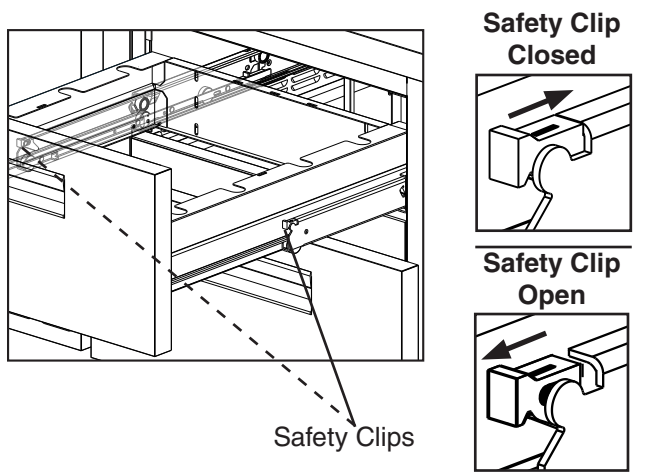

Fig. 36
- **To remove a drawer:** Remove all items from the drawer. Pull the drawer out to its fully extended position. Open the safety clips (one on each side) by sliding them forward. See Fig. 36. Lift up on the handle slightly, then pull to disengage the drawer. Be sure to support the rear and front of the drawer while removing it. **WARNING! Be sure to close the safety clips when reinstalling the drawer.**